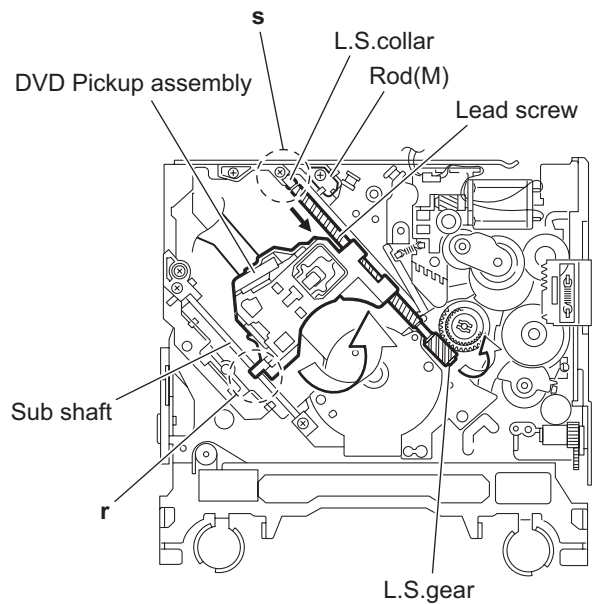

Fig.18
- Remove the DVD pickup assembly upward on the L.S.gear side and release from sub shaft at joint **r**. Move the lead screw of the DVD pickup assembly in the direction of the arrow to release from joint **s**. (See Fig.18.)
- When releasing the lead screw at joint **s**, the L.S.collar comes off at the end of the lead screw. When reassembling, reattach the L.S.collar to the lead screw and engage joint **s**. (See Fig.18.)
- When reattaching the L.S.collar, reattach it to the point **s** of the lead screw, and to the rod (M). Make sure that the L.S.collar is set on the rod (M) spring. (See Fig.18.)